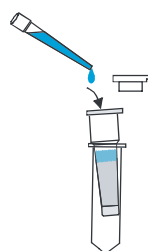

Figure 2: Pipetting of the extract onto the **aokinQuickClean** column
Place an **aokinQuickClean DON** ③ column in a 2 mL collection tube and add 500 - 600  $\mu$ L of the filtrate/supernatant (preferable 500  $\mu$ L) (Figure 2). Place it in the centrifuge and spin for 2 minutes at 2000 - 6000 x g (preferable 5000 x g) or until all liquid passed the column. Your sample is now ready for analysis.